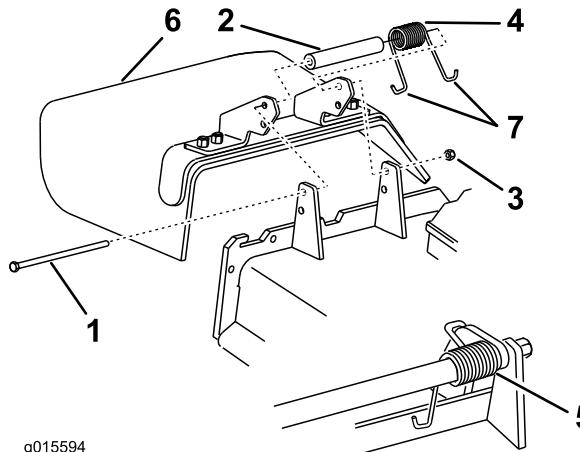

Figure 97
1. Remove the locknut, bolt, spring, and spacer holding the deflector to the pivot brackets (Figure 97).
**Note:** Make sure one J end of spring is installed behind deck edge before installing the bolt as shown in Figure 97.
4. Install bolt and nut. Place one J hook end of spring around grass deflector (Figure 97).